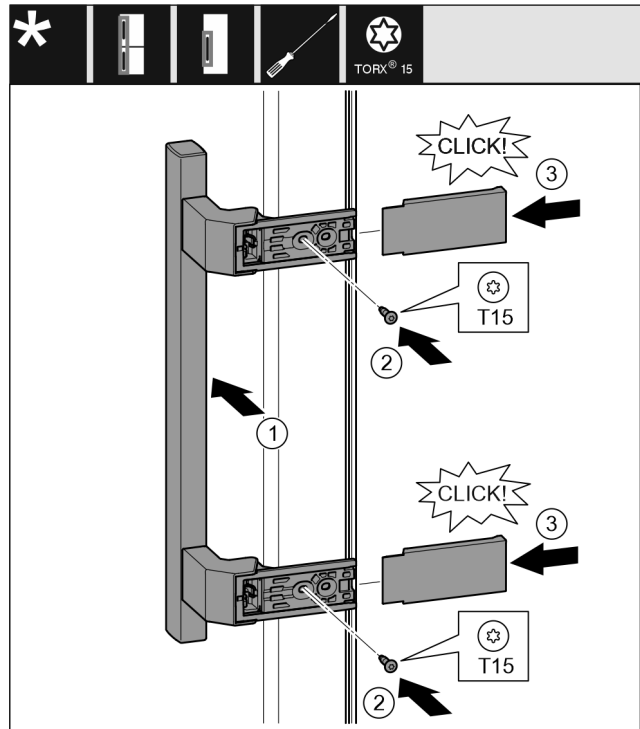

Fig. 11
- Attach the handle on the opposite side. Fig. 11 (1)
- Tighten screws with screwdriver T15. Fig. 11 (2)
- Place the covers on the side and push them on. Fig. 11 (3)